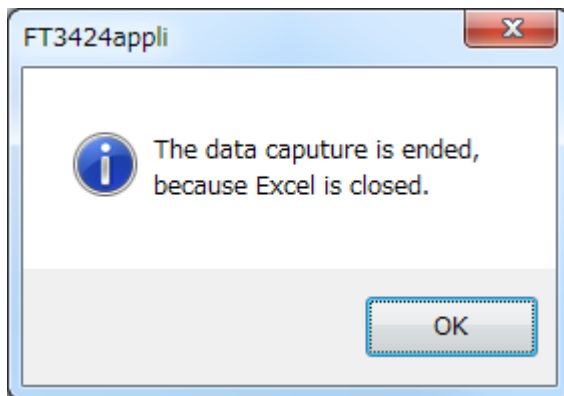

Fig.3-30
- (7) If you choose [By return key], when return key is pressed, record data is pasted to Excel.
- (8) The following message is appeared when Microsoft Excel is closed. (Fig.3-30)